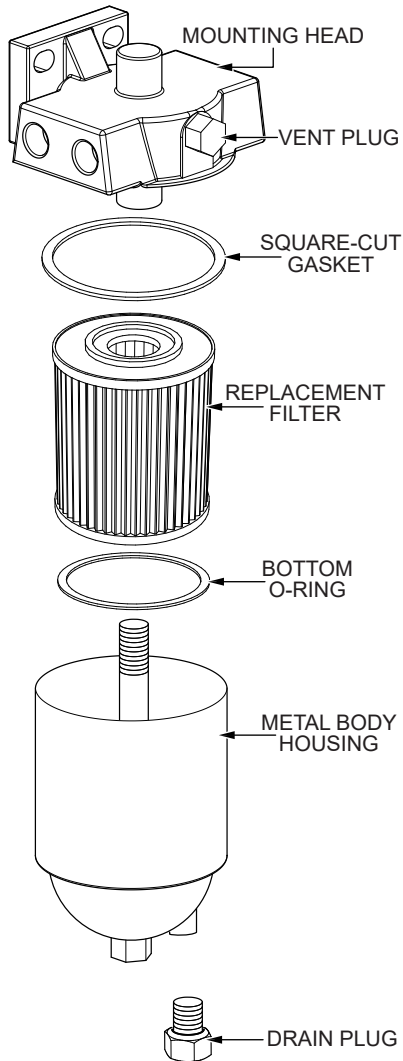

Figure 17. Fuel Filter/Water Separator
The MQ62TK series pump incorporates a Racor® model 110A fuel filter/water separator (Figure 17), which utilizes a 2-micron filter element. Filter replacement frequency is determined by the contamination levels in the fuel used.
2. Open the drain plug (Figure 17) to remove sediment and/or water that may have accumulated in the housing reservoir.